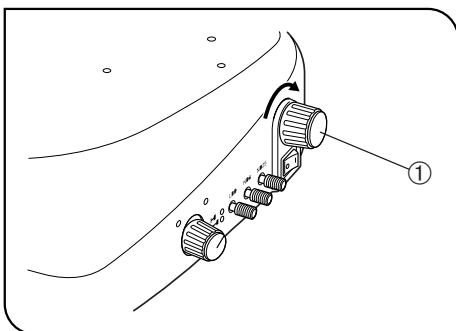

Fig. 10
**8 Photomicrography (Adjusting the Color Temperature)** (Fig. 10)